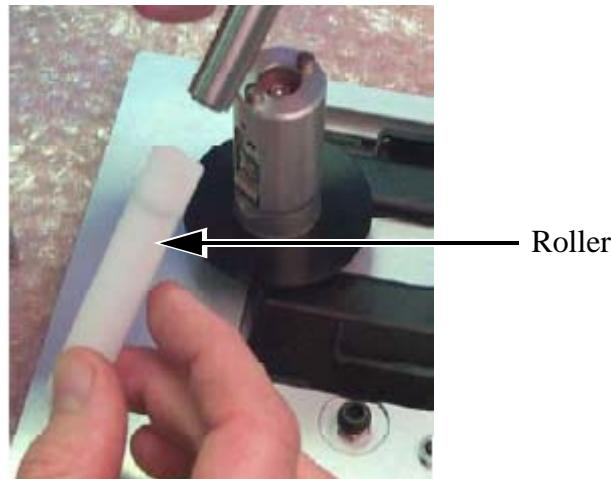

Figure 5-81: Roller Removal
- 4 Remove the roller from the ribbon guide, as shown in Figure 5-81.